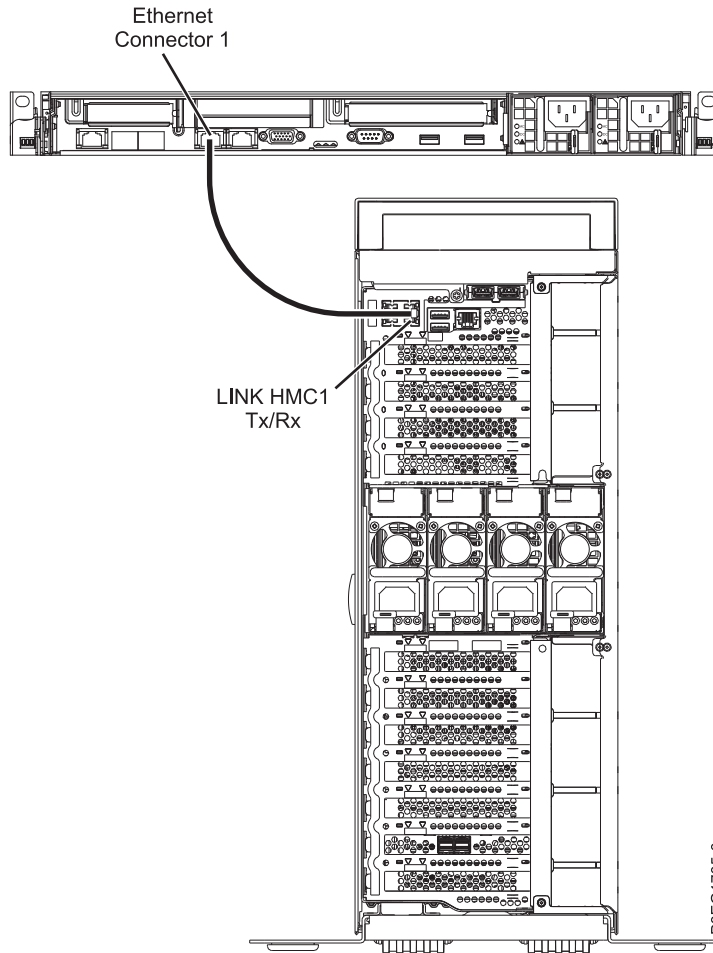

Figure 21. Attaching the HMC to the managed system
1. If you want to directly attach your HMC to the managed system, connect **Ethernet Connector 1** on the HMC to the **HMC1** port on the managed system. See Figure 21 on page 40.